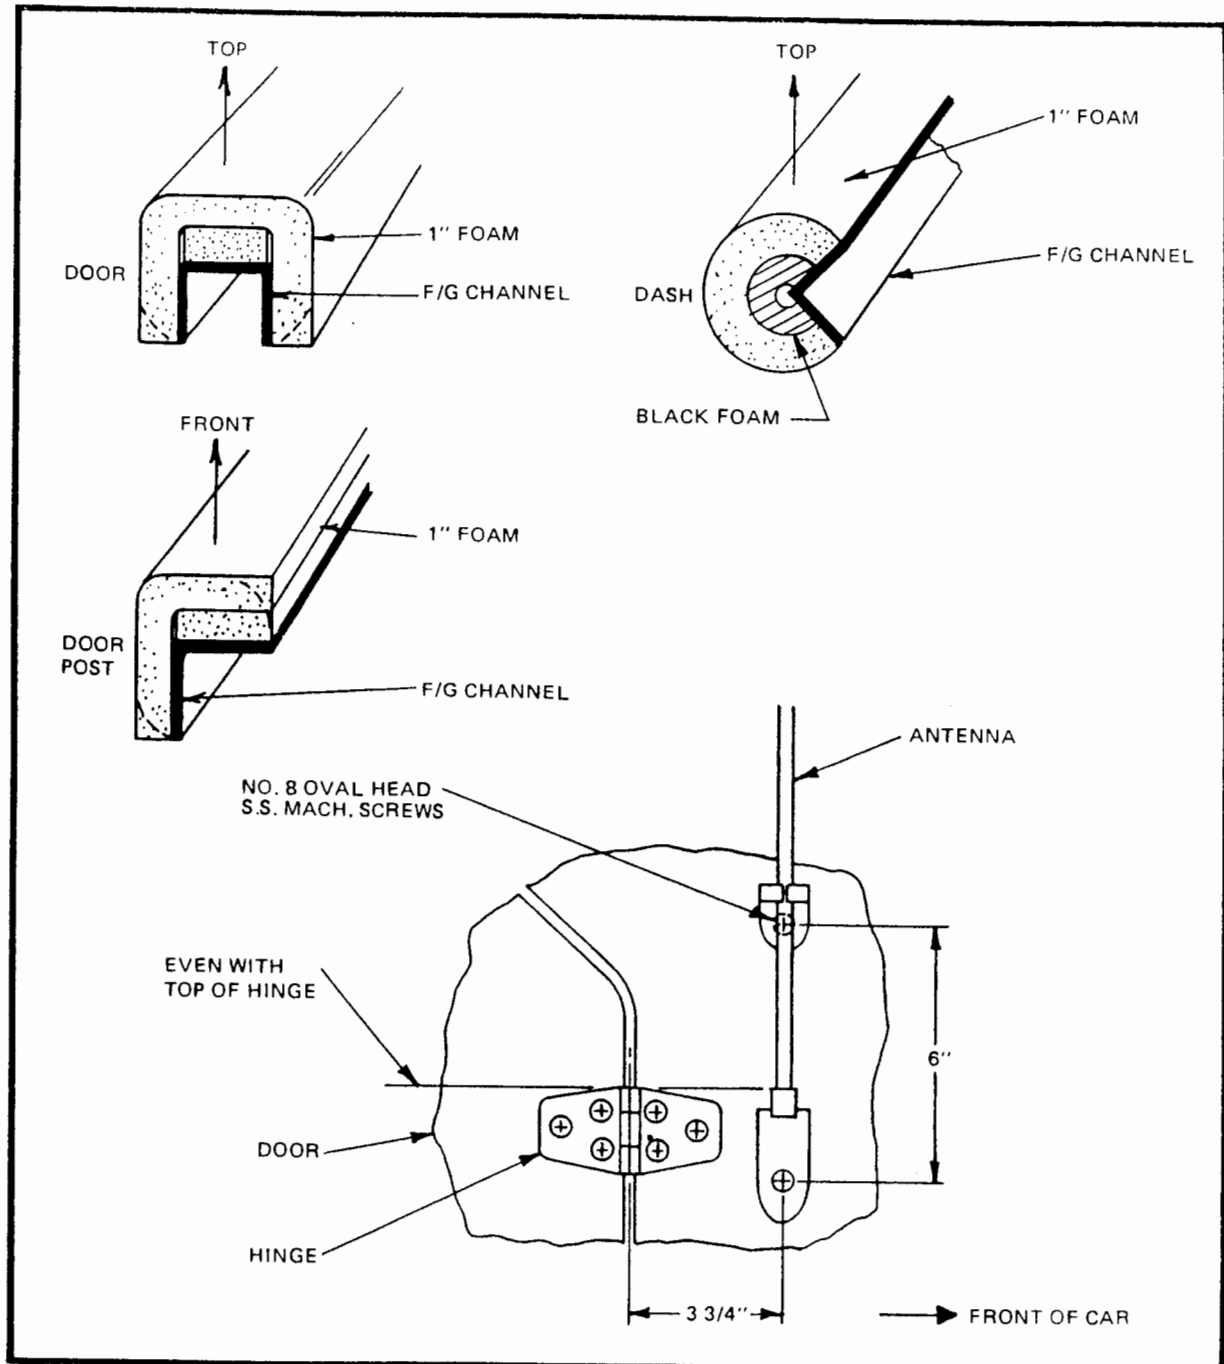

Figure 15
- The antenna available from the factory mounts on the passenger side as shown in Figure 15. If using another antenna, mount in a similar fashion.